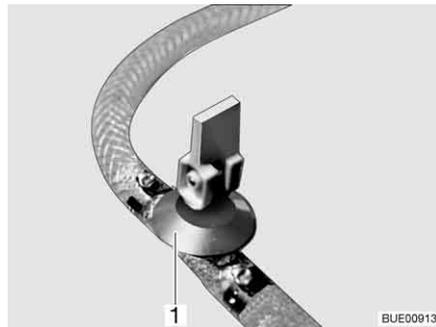

Fig. 223 Drain cock
- Close the drain cock(s). Position the rocking lever (Fig. 223,1) horizontally.
- Open drain cock(s) (Fig. 223). To do so, set the rocking lever (Fig. 223,1) in a vertical position. The boiler is drained to the outside.